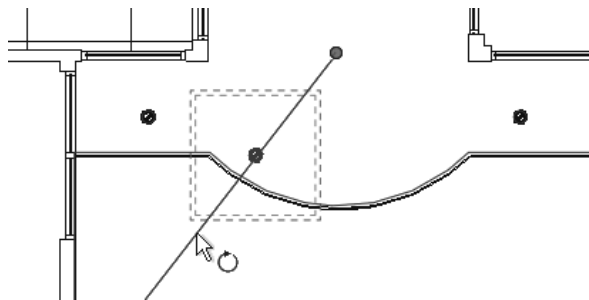

Figure 2–55
4. Drag  (Center of Rotation) or in the Options Bar click **Place** to move the center of rotation to the appropriate location, as shown in Figure 2–55.